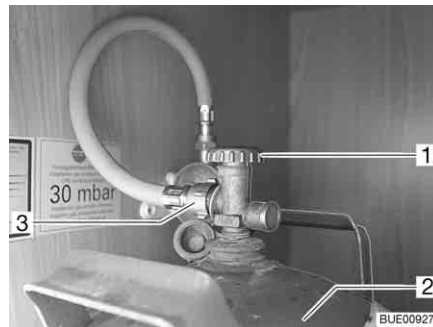

Fig. 113 Gas bottle compartment
- Close the regulator tap (Fig. 113,1) on the gas bottle (Fig. 113,2). Pay attention to the direction of the arrow.
- Unscrew the gas tube (Fig. 113,3) from the gas bottle.